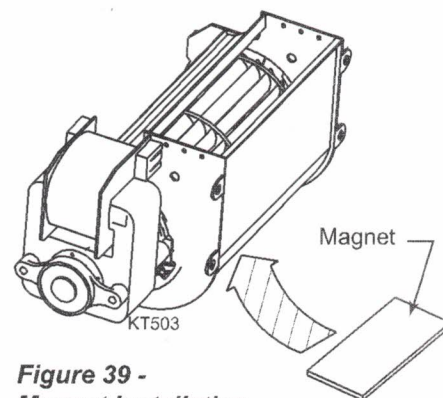

Figure 39 - Magnet Installation
2. Remove glass frame by releasing the two (2) latches (500 Model has three (3) latches) below the firebox opening and lifting glass frame up and away from unit.
8. Two (2) magnetic strips have been supplied to secure each blower to the firebox floor. Place on bottom of each blower before installing. *Figure 39*